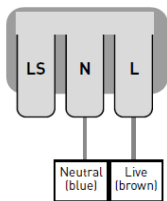
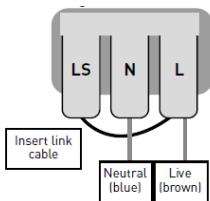
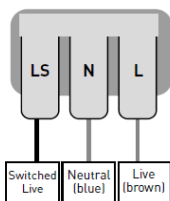

Fig. 3
Fig. 4
Fig. 5
- Wire for non-maintained operation (Fig. 3), maintained operation (Fig. 4) or switched-maintained operation (Fig. 5) as required. Remove the link between LS and L if not required